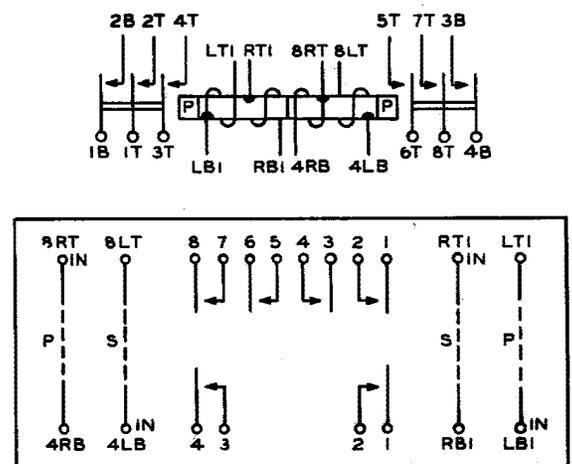

Fig. 49 - Winding and Spring Terminal Arrangement as Viewed From the Rear (terminal side) — Double-Wound 266-Type Relay
2.58 **Contact Springs:** As viewed from the front of the relay, contact springs are numbered consecutively from left to right considering the relay as one unit. As viewed from the rear of the relay the contact springs are numbered consecutively from right to left considering the relay as one unit as shown in Fig. 49. Cover-operated springs (springs operated when the cover is mounted on the relay), which are not designated on the circuit convention, are numbered the same as armature-operated springs.
2.62 *Where the numeral 1 follows the letters*, the winding terminal is located at the right of the number 1 contact spring terminal. It is the first terminal in the row where the unit has one winding, or the first or second terminal where the unit has two windings. (See Fig. 49.)
2.63 *The first letter L or R*, locates the winding terminal with respect to the relay core on which the winding is located. On a relay where each unit has one winding, the winding on the left unit is located to the left of the core of the left unit as viewed from the rear, and the winding of the right unit is located to the right of the core of the right unit. When each unit of the relay has two windings, the winding terminals of one winding of each unit are located to the left of the core on that unit; and the winding terminals of the other winding of each unit are located to the right of the core of that unit as shown in Fig. 49. Thus each such relay has two terminals designated LT, RT, LB, and RB. They can be distinguished from one another by the contact spring number associated with the letters.